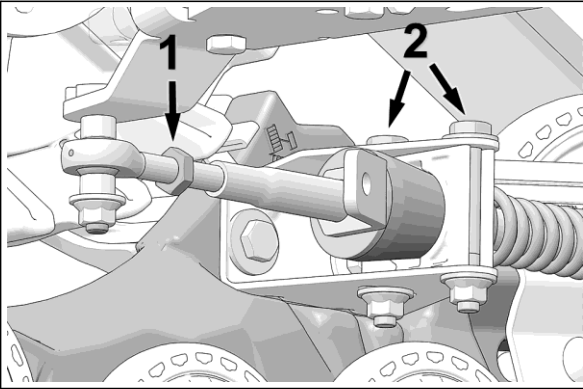

Figure 3
- Loosen jam nut (1). Loosen the pivoting plate's mounting bolts (2). Refer to Figure 3.